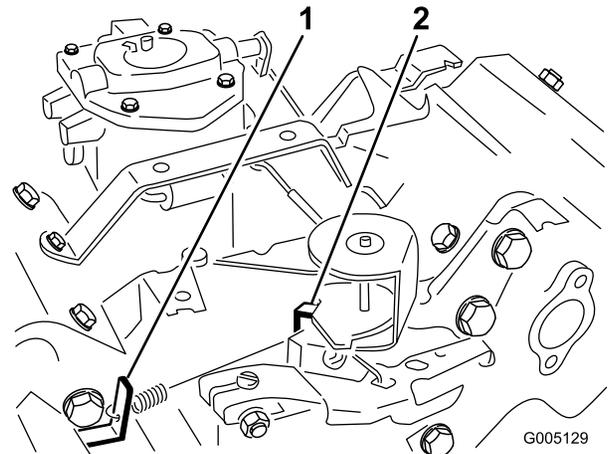

Figure 48
3. Bend the governed idle spring anchor tang (Figure 48) to attain an idle speed of  $1650 \pm 100$  rpm. Check the speed with a tachometer.
5. Move the throttle control to the Fast position. Bend the high speed spring anchor tang (Figure 48) to attain a high speed of  $2850 \pm 50$  rpm.